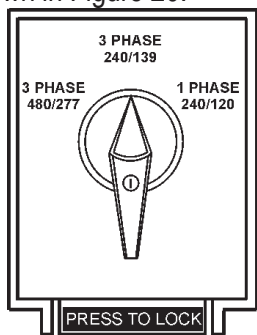

Figure 20. Voltage Selector Switch 240/139V Three-Phase Position
1. Place the voltage selector switch in the 3Ø 240/139 position as shown in Figure 20.